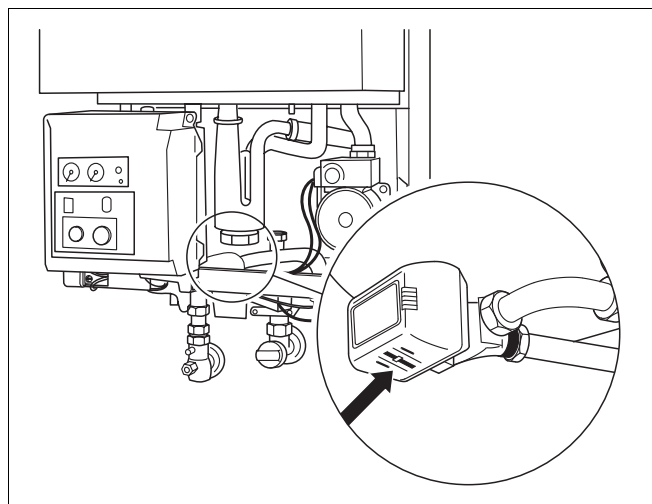

Fig. 25 Three-way valve
- Set three-way valve to the middle setting (applicable for 24C only). This is done by pushing the lever on the three-way valve (fig. 25) with a screwdriver to the middle setting.